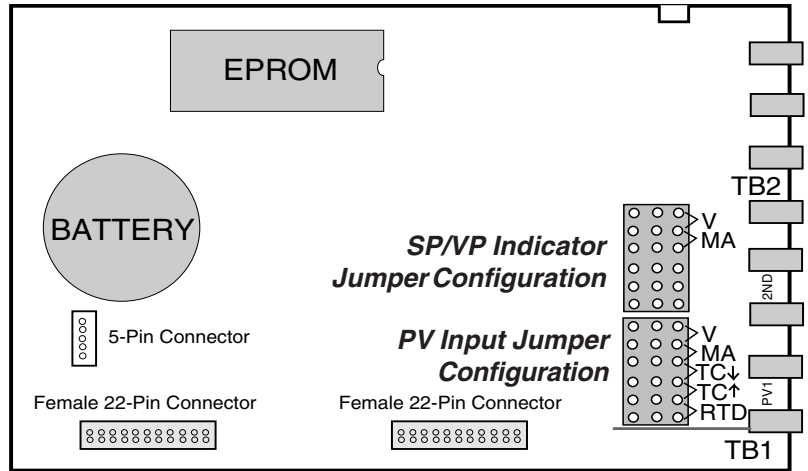

Figure 3.3
There is one output module socket on the Option Board (Figure 3.3), and three on the Power Supply Circuit Board (Figure 3.4). The position of the jumper next to each socket determines whether the relay is configured for Normally Open (NO) or Normally Closed (NC). The output on the options board is always Normally Open (NO).
3. You will not need to disassemble the chassis to make these adjustments. Refer to Figure 3.3 and Figure 3.4 to locate the jumper connector you want to change.